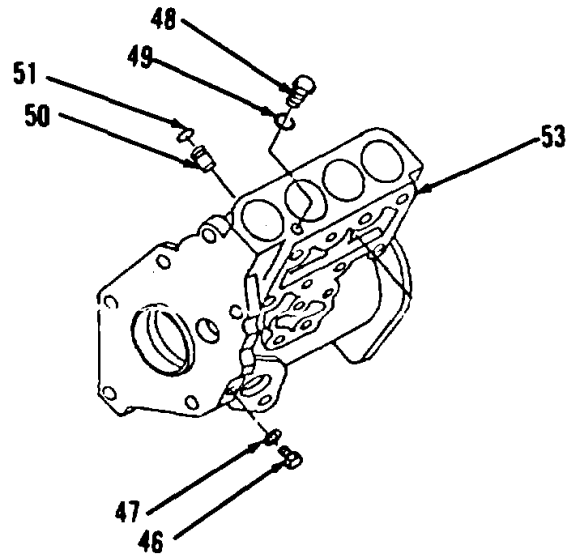

Figure 3-92.
25. Using suitable puller, remove bearing (44). Install locator plate so large bore in plate is in alignment with counterbore for preformed packing (13) and the small hole in the plate is over bearing (44). Scribe a mark on the plate. This mark will aid in proper installation of bearing (44).
26. Using suitable puller, remove bearing (45).
27. Remove items 46 thru 53 as an assembly.
28. Remove two plugs (46) and preformed packings (47, Figure 3-92). Discard preformed packings (47).
29. Remove plug (48) and preformed packing (49) from housing (53). Discard preformed packing (49).
30. Using hammer and punch, drive four pins (50) out from opposite side. Take care not to damage any machined surfaces.
31. Remove and discard four preformed packings (51).